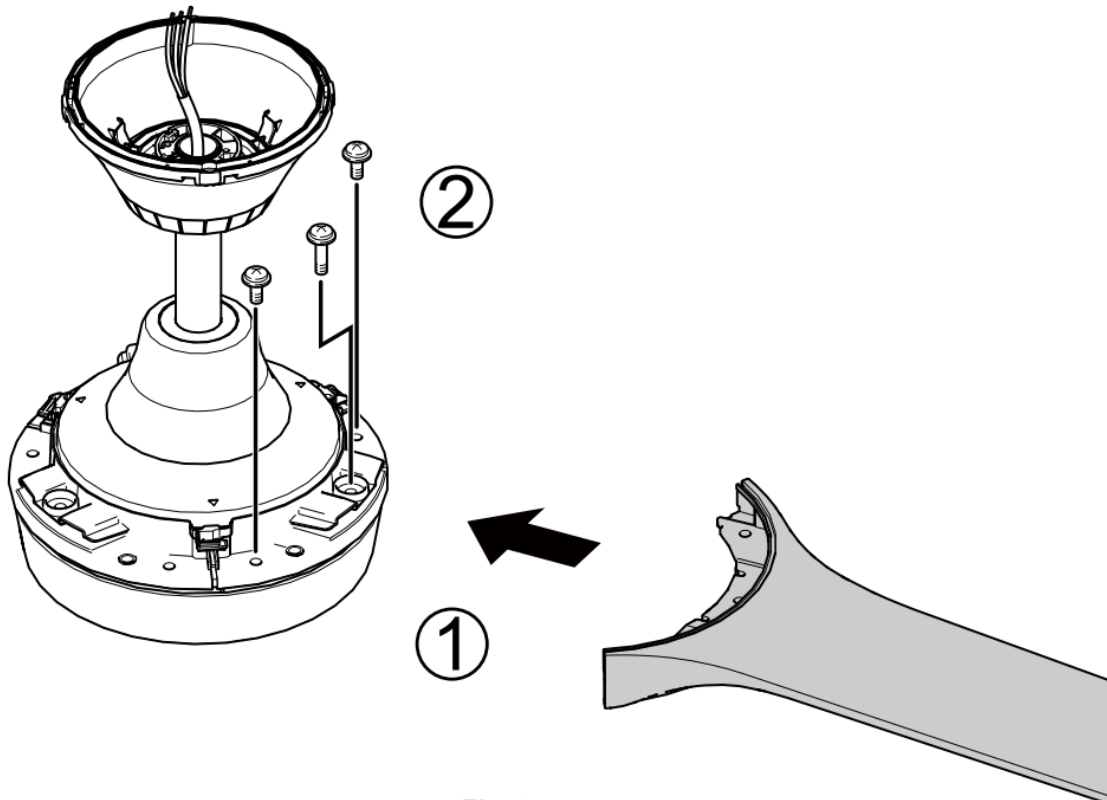

Fig. 8
2. Install the fan blades onto the motor assembly by the three fan blade screws provided;(Fig.8)